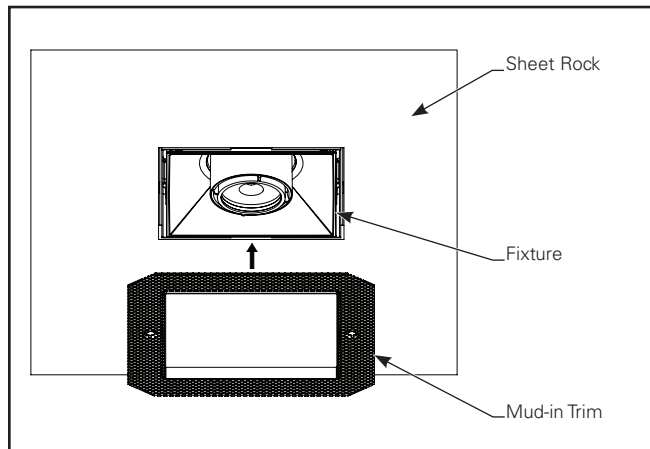

Figure 1.9.
6. Once the sheet rock is fixed, add the Mud-in trim to the sheet rock. (Figure 1.9)